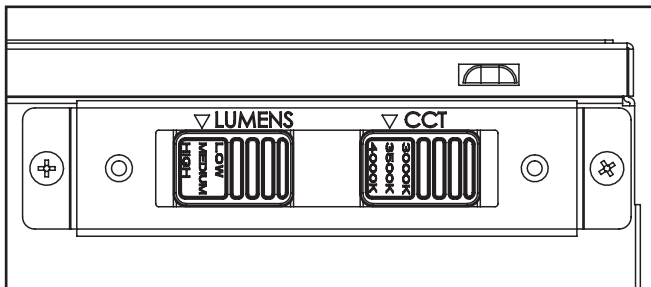

Figure 5.
11. With fixture powered on, use the lumen switch and CCT switch (if equipped) to adjust the fixture to the desired lumen level and CCT (Figure 5). Refer to label on top of driver for lumens and wattage of each setting.